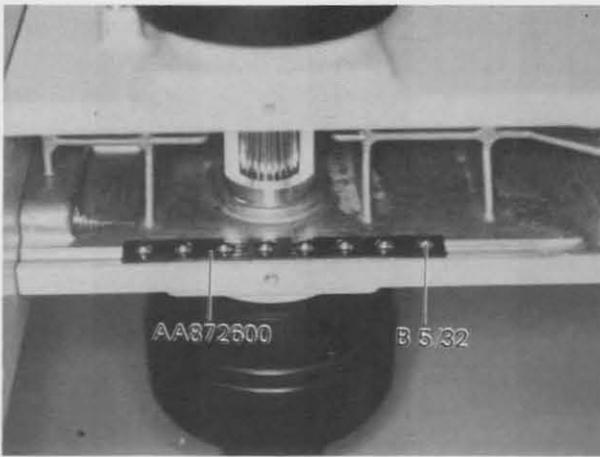

Fig. 4-35
- 4-2-4 Mount Casing AA872600 and eight Balls B 5/32. (See Fig. 4-35)